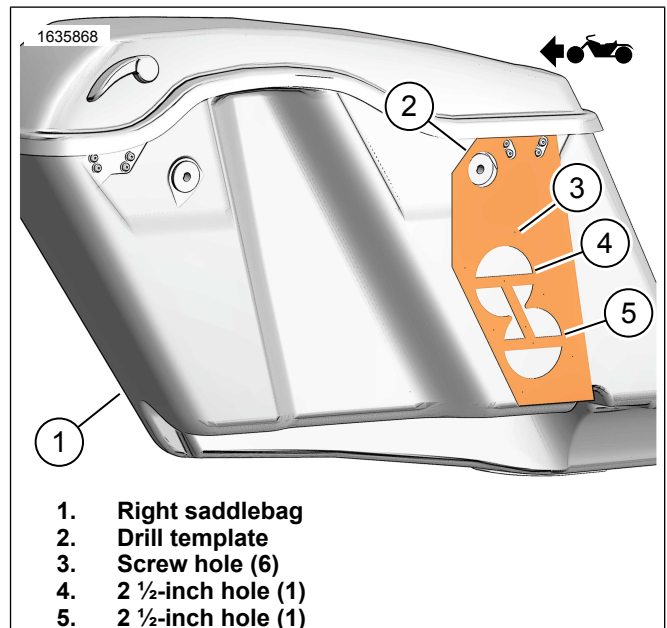
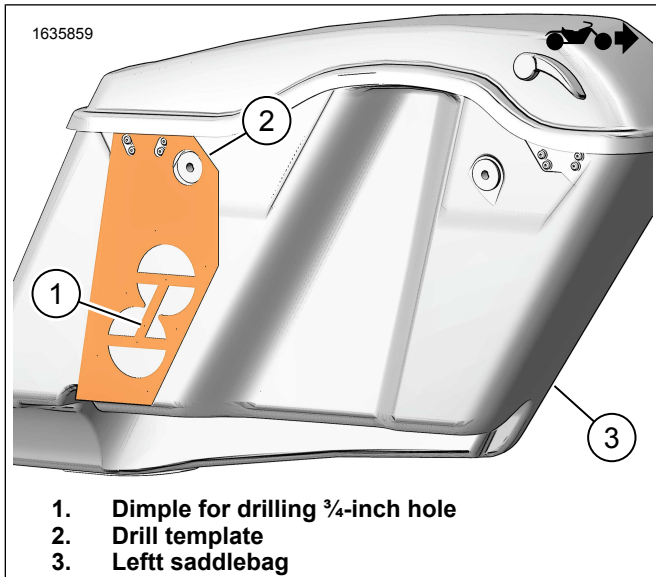
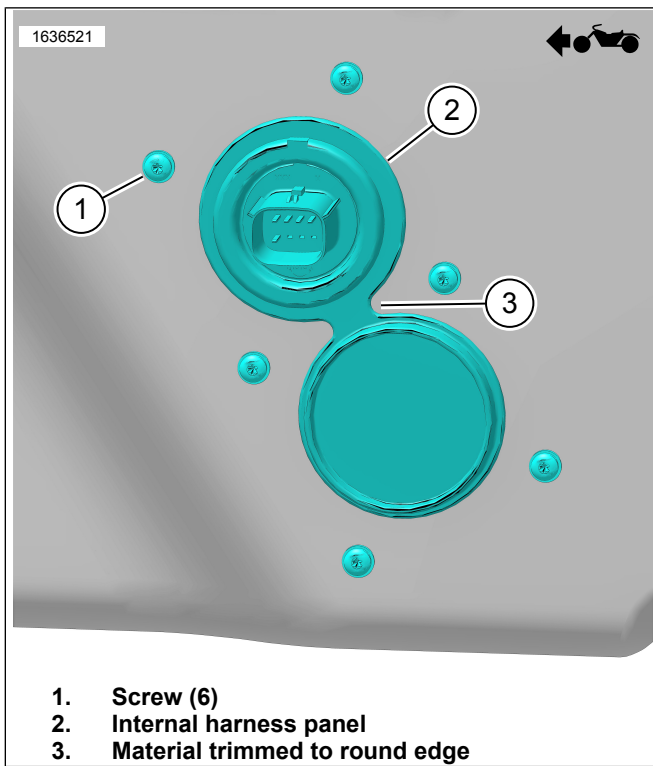

Figure 2. Right Saddlebag
Figure 3. Left Saddlebag
Figure 7. Internal Harness Panel
1. Figure 2 Position drill template (2) on right saddlebag (1).
2. Modify right saddlebag (1).
- d. Figure 7 Trim material to round edge (3).
4. Figure 3 Position drill template (2) on left saddlebag (3).
5. Modify left saddlebag (3).
- a. Center punch drill location (1) on template.
6. Figure 7 Install internal harness panel (2).